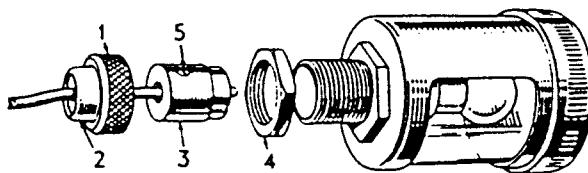

FIG. 9.
- (1) Remove from the tail lamp the knurled nut (1), cable sleeve (2), moulded adaptor (3), and fixing nut (4), as shown in Fig. 9.
- (2) Fit tail lamp to number plate bracket and secure by means of fixing nut, the tail light window being arranged to illuminate registration letters and numerals.
- (3) Thread the cable sleeve and knurled nut on to the short length of cable for tail lamp.
- (4) Slacken the terminal screw (5) in the side of the moulded adaptor and push bared portion of cable (approx.  $\frac{1}{2}$ ") (12.7 mm.), into terminal and then tighten the screw.
- (5) Insert moulded adaptor into sleeve of tail lamp and secure in position by fitting cable sleeve and knurled nut.